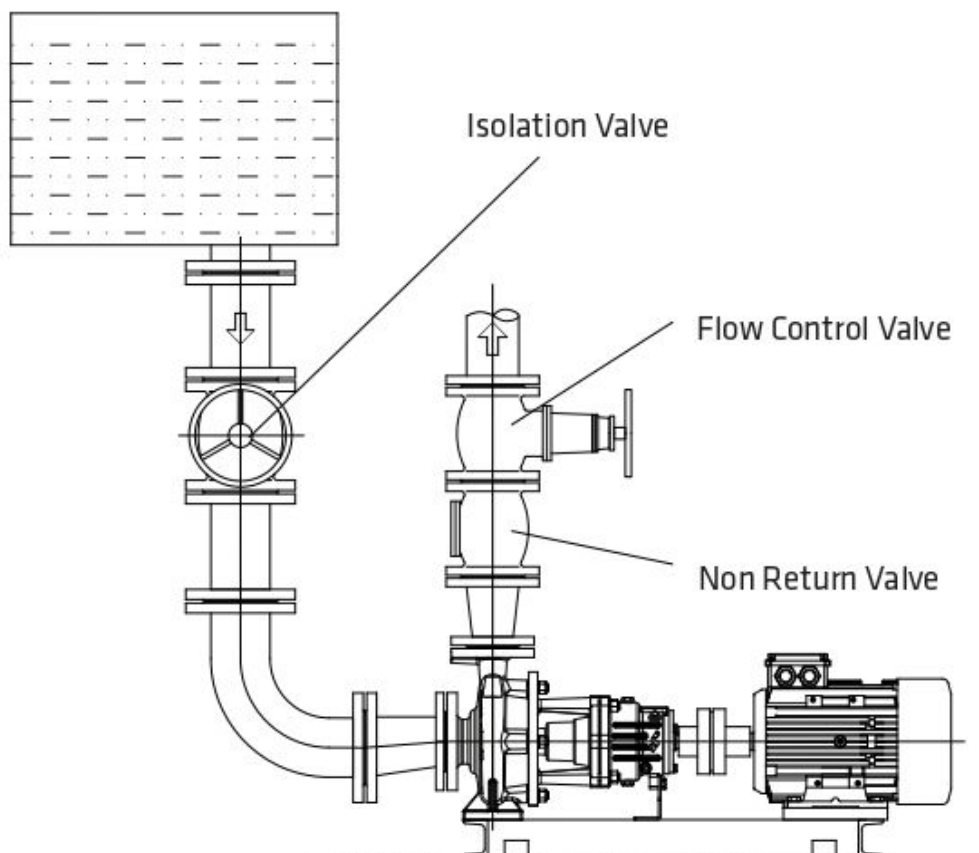

Figure 4. Suction Flooded
- The suction pipe should be definitely watertight and should not be arranged in a way to cause formation of air pockets. In other words, if it is supplied from a reservoir higher than it (system with elevated suction/supply), the suction pump should be slightly declined towards the pump; and if the pump is supplied from a reservoir lower than it (system with suction depth), then the suction pipe should be gradually inclined slightly towards the pump. **Figure 4**